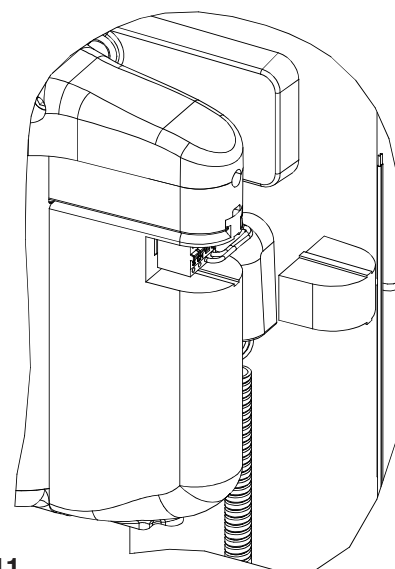

Figure 11
5. Refer To Figure 11, and INSTALL receptacle cover onto battery pack.